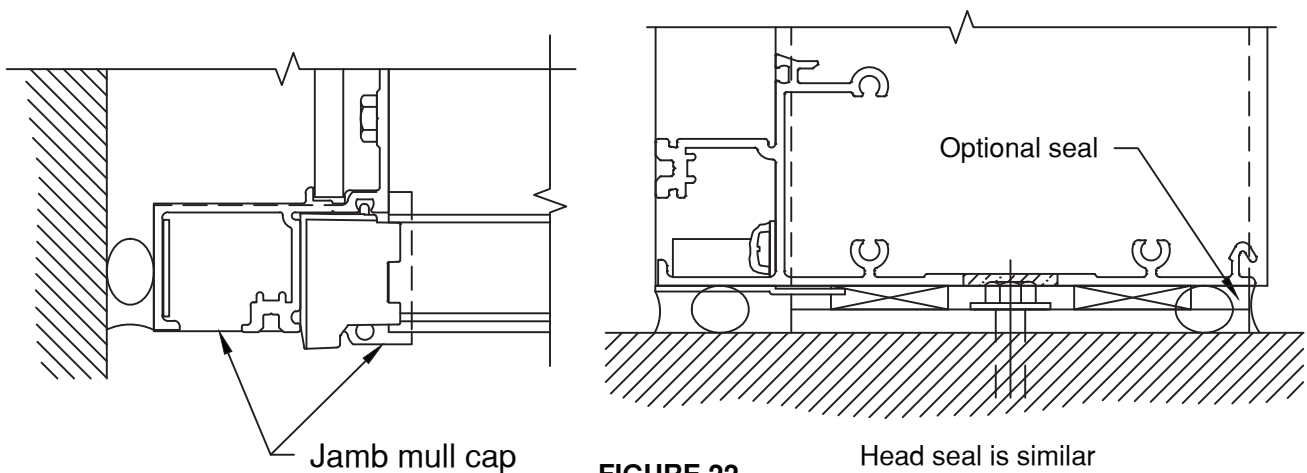

FIGURE 22
3.10 When all framing members are installed, apply the perimeter seal. **SEE FIGURE 22, page 19.** The interior perimeter seal is not required for system performance, but may be required for cosmetic purposes. Perimeter sealing must be completed prior to glazing.